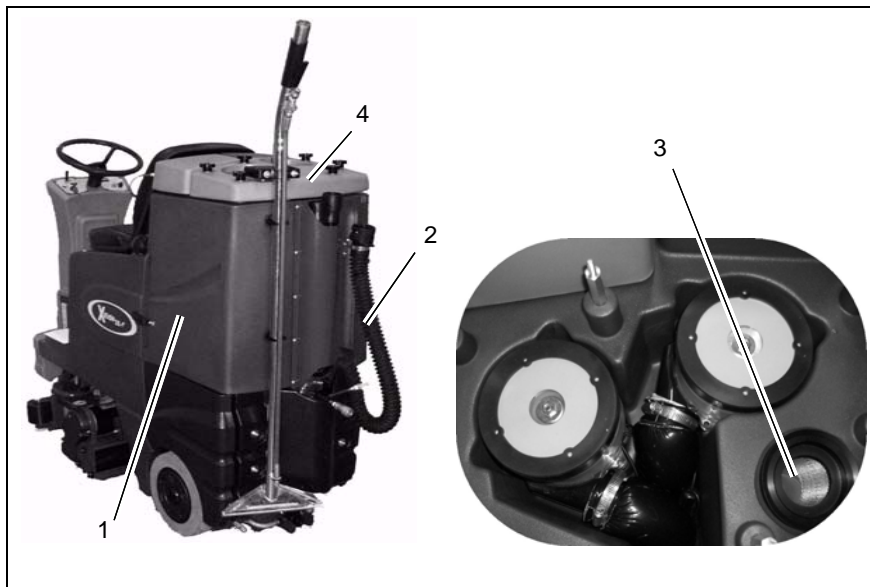

Fig.13
Clean recovery tank (Fig. 13/1) at daily intervals, as required or upon acoustic signal (increased vacuum motor speed).
4. Take drain hose (Fig. 13/2) from holder and empty recovery tank completely.
2. Open tank lid (Fig.13/4) of the recovery tank.
3. Take drain hose (Fig. 13/2) from holder and empty recovery tank completely.
Check suction filter (Fig. 13/3) at daily intervals and clean if required. The suction filter can be easily removed by pulling downward.